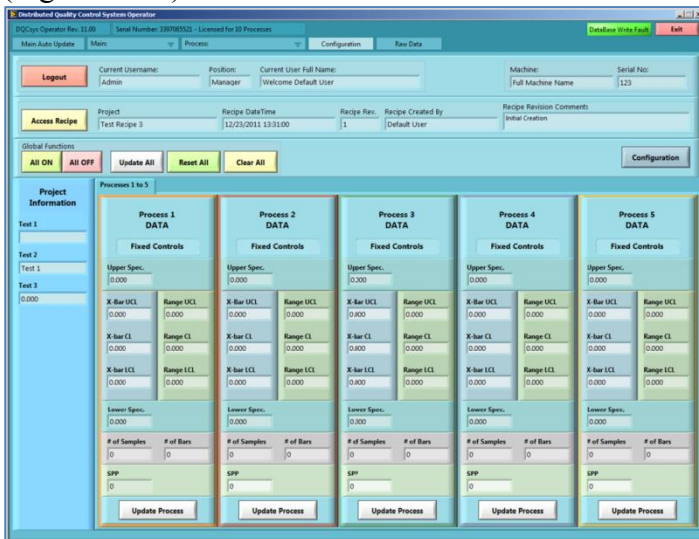

Figure 5.5-2: The **Configuration** page of DQCsys Operator
2. The **Manage Recipe** window will close and the recipe is loaded into DQCsys Operator (Figure 5.5-2)